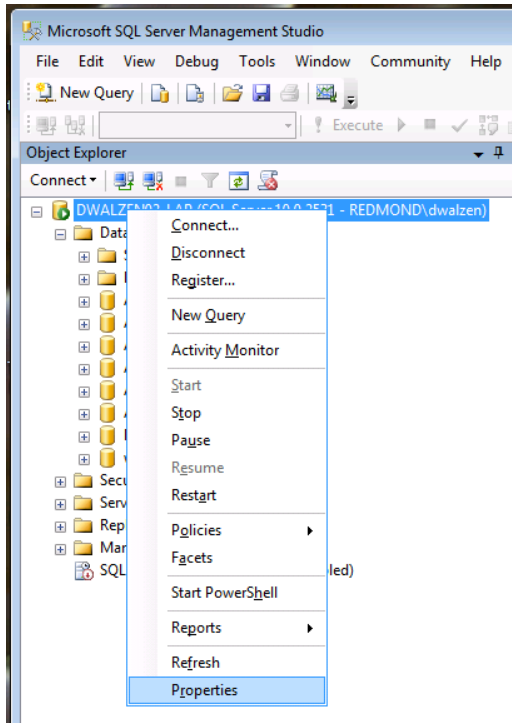

Figure 21-1
3. Right click the server and select **Properties**. See Figure 21-1.